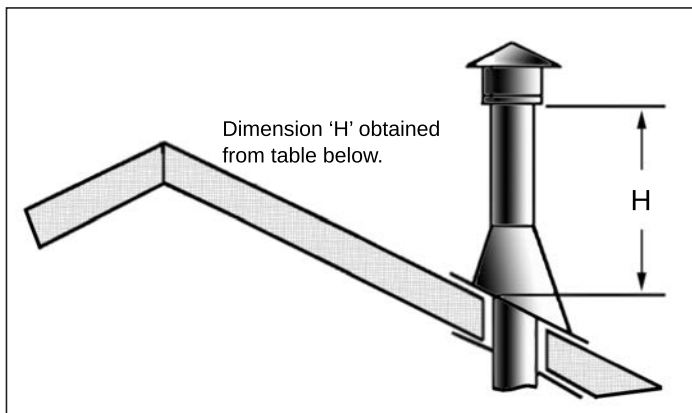

Figure 44: Height of Vertical Termination; Reference Table 5.
8. Continue to add pipe sections until the height of the vent cap meets the minimum code requirements. Refer to Figure 44 and Table 5. Note that for steep roof pitches, the vent height must be increased. In high wind conditions, nearby trees, adjoining roof lines, steep pitched roofs, and other similar factors can result in poor draft, or down drafting. In these cases, increasing the vent height may solve the problem.
Table 5: Minimum 'H' for Figure 44.